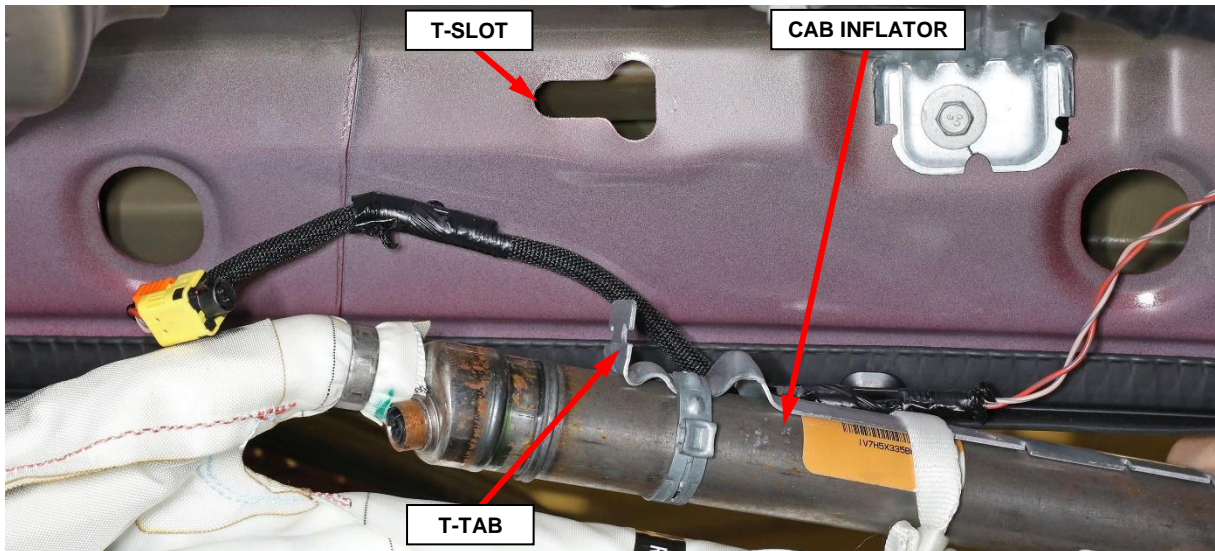

Figure 38 – CAB Inflator T-Tab and Inner Roof Rail T-Slot
32. Slide the inflator rearward far enough to disengage the T-tab at the front of the inflator bracket from the keyed T-slot in the inner roof rail over the rear door opening (Figure 38).
36. Insert the T-tab at the front of the inflator bracket into the keyed T-slot in the inner roof rail over the rear door opening and slide the inflator forward to engage it (Figure 38).